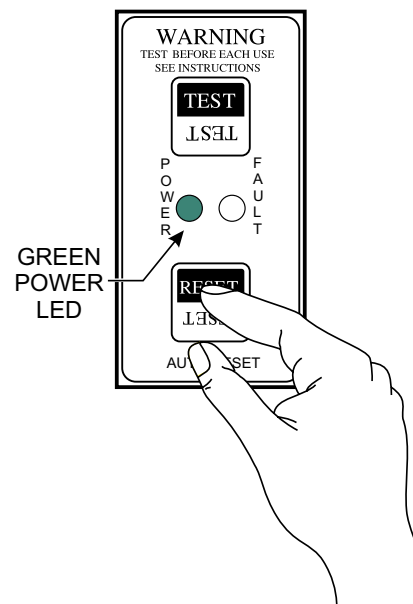

Figure 84. GFCI Sensing Module (Green LED ON)
3. Press the **RESET** button on the GFCI module and verify that the **GREEN** power LED is **ON** (Figure 84).